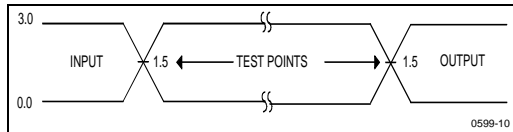

Figure 10. High Speed Test Waveform
- 5% VCC specifications apply to the high-speed test configuration (Figures 10 and 12).